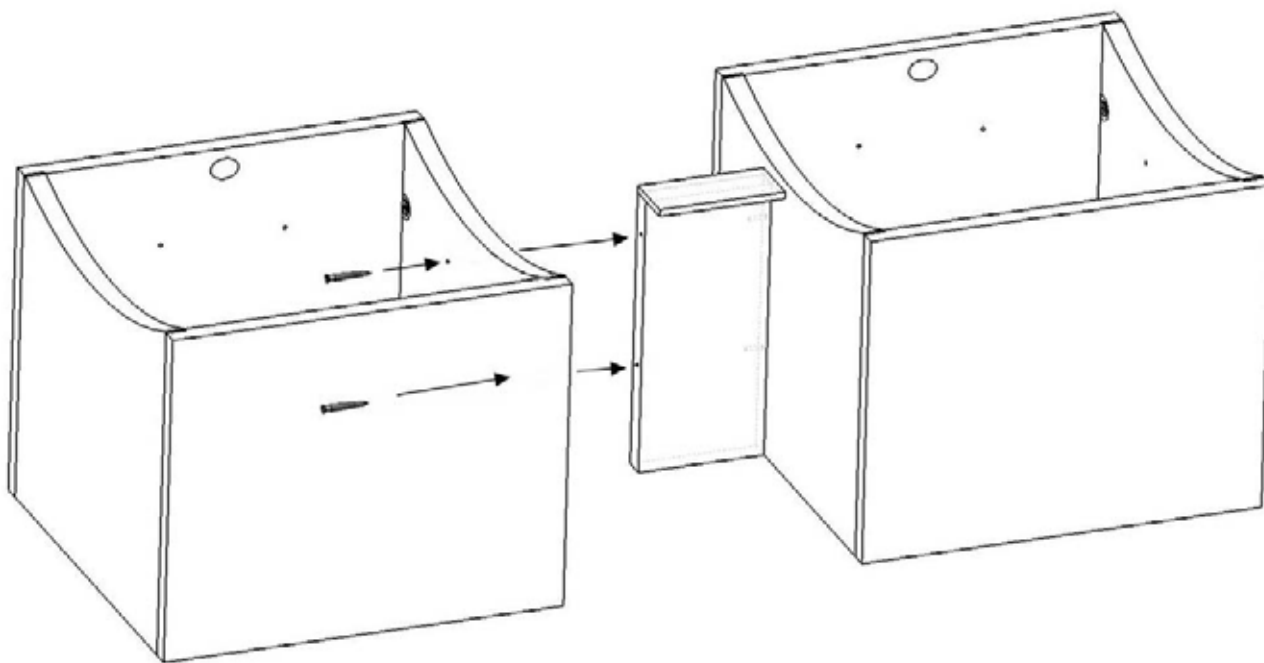

Figure 2
3. Repeat step 1 and 2 for the second wave cube (**Figure 2**).